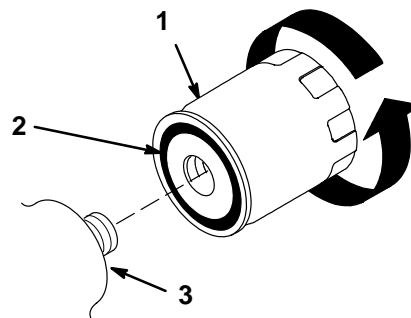

Figure 26
7. Apply a thin coat hydraulic fluid to the rubber gasket on the replacement filter (Fig. 26).
8. Install the replacement hydraulic filter onto the filter adapter. Tighten it clockwise until the rubber gasket contacts the filter adapter, then tighten the filter an additional 1/2 turn (Fig. 26).